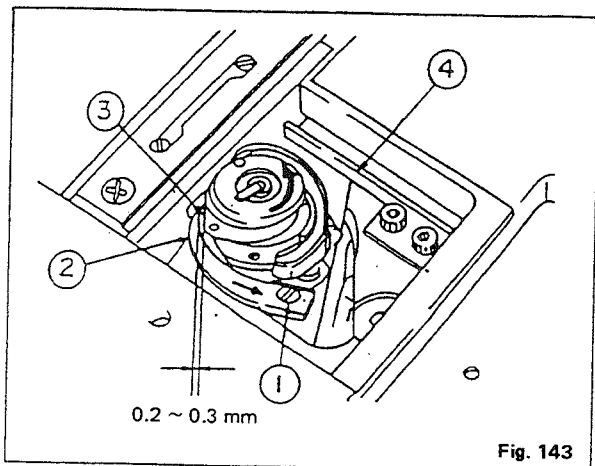

Fig. 143
Adjust cutting of the bobbin thread knife by appropriately pressing the thread nipper spring (4) (Fig. 143) against the needle thread knife. It is desirable to press the thread nipper spring as lightly as possible for longer life of the knife, provided that thread is cut without fail.
(11) Position of the synchronizer